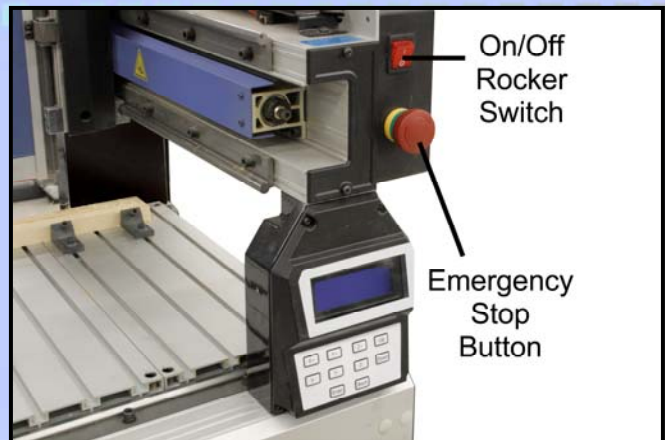

Figure-42 Turning the machine On
2. Rotate emergency stop button clockwise to release it. See figure-42.
3. Push the ON/OFF switch to turn ON the machine. See figure-42.